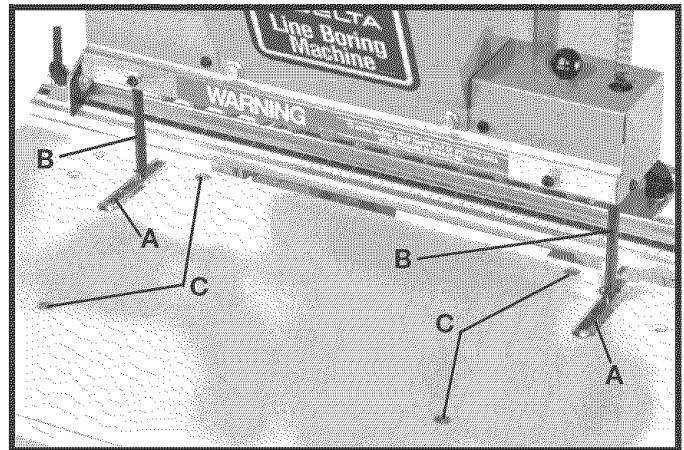

Fig. 20
2. If an adjustment is necessary, loosen four screws (C) Fig. 20, that fasten the table to the machine frame and adjust the table until index pins (B) point to the 2-1/4" mark on scales (A). **IMPORTANT:** Make sure the table mounting brackets are held securely against the machine frame and tighten four screws (C).